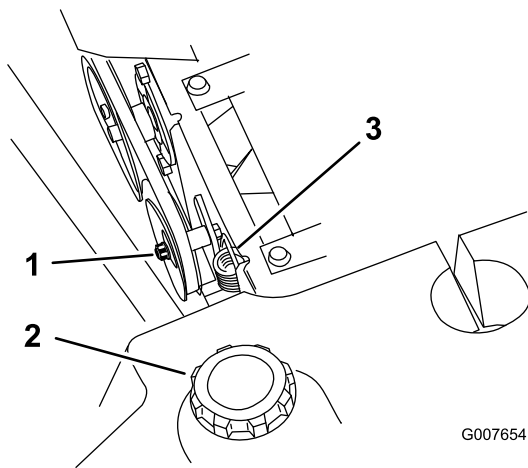
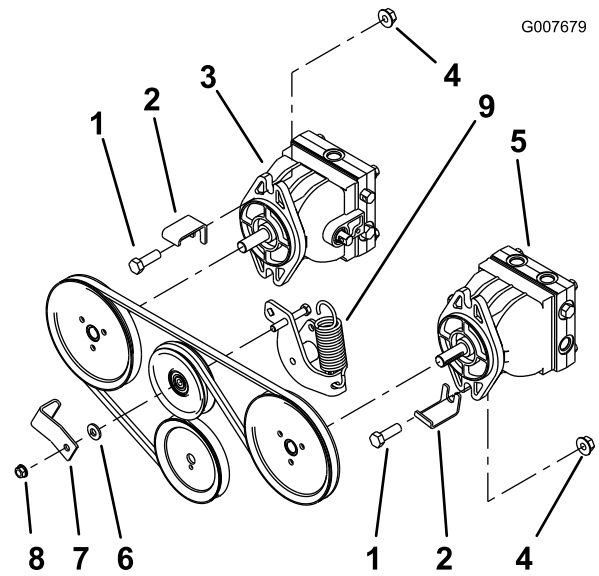
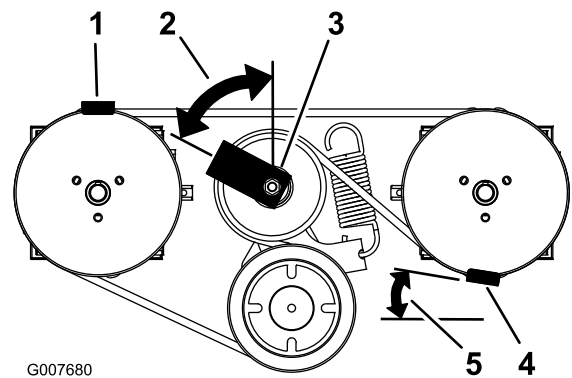

Figure 3
Figure 4
Figure 5
7. Remove the existing idler spring and install the new spring (Figure 3 and Figure 4).
- 10. Locate the idler pulley and remove the nut that is locate on the engine side (Figure 3).
- 11. Install the idler pulley belt guide and curved washer with the previously removed nut (Figure 3 and Figure 4). Make sure the pulley belt guide is installed at a 62 degree angle as shown in (Figure 5).